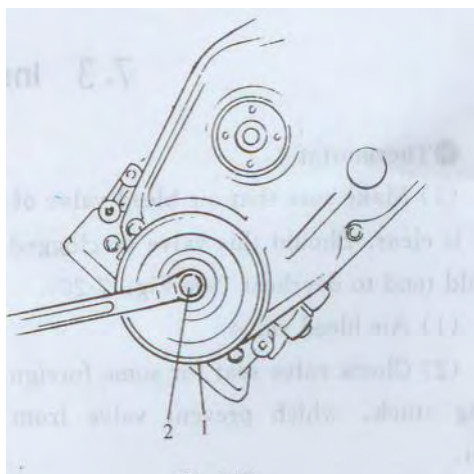

FIG.6-14 (see fig.7-15 of service manual for HFJ6351B)
- (1) Drain cooling system.
- (2) Remove cooling fan and shroud.
- (3) Loosen water pump belt tensioner and remove water pump pulley and belt.
- (5) Remove crank shaft pulley (FIG.6-14)